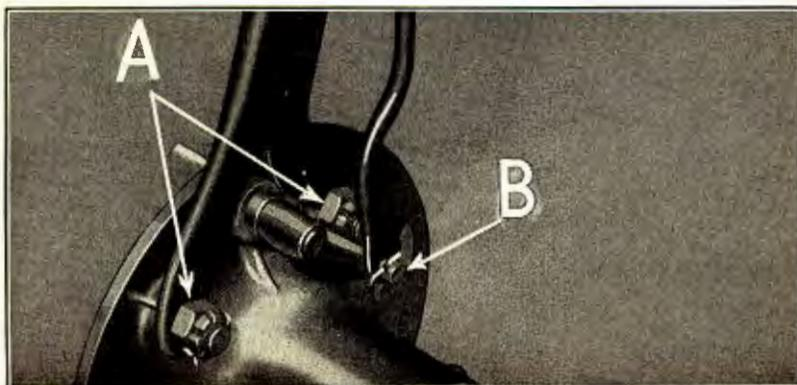

Fig. 363
- 650** Insert the two radius rod bolts through axle housing plate and install forked end of radius rod over ends of bolts. Run down the two radius rod bolt nuts (See "A" Fig. 363) and lock with cotter keys.